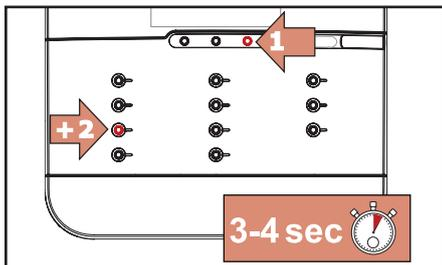

Fig. 5.4 - Enter cleaning mode
1. Press first **STOP** and then **←** and hold them pressed simultaneously for 3-4 seconds to enter the cleaning mode (fig. 5.4).
- Press first **STOP** and then ← and hold them pressed simultaneously for 3-4 seconds to enter the cleaning mode (fig. 5.4).